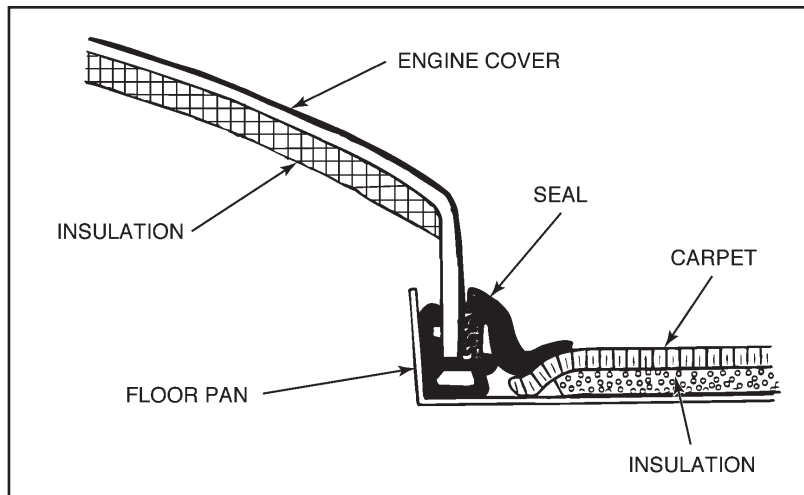

Figure 4
- Do not place floor covering, such as carpeting, so that it extends past the engine cover seal area or interferes with engine cover mounting clamps to eliminate CO intrusion, water leaks and noise intrusion. (Figure 4.)